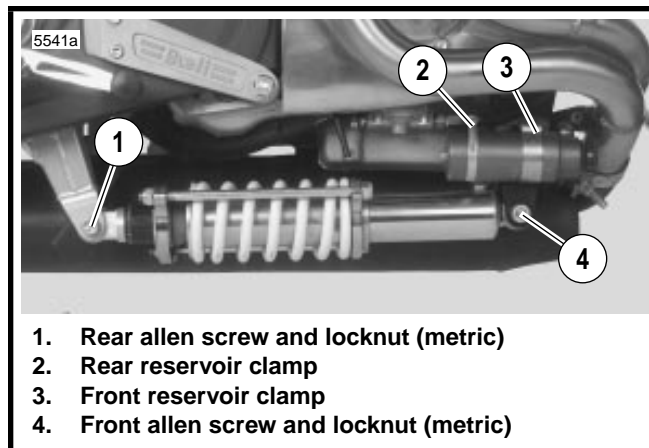

Figure 2-41. Rear Shock Mounting Hardware
See Figure 2-41. The rear suspension features a WP Suspension shock absorber. The shock adjusts for compression and rebound damping as well as spring preload.
4. See Figure 2-41. Use a flex socket and extension to remove allen screw on front reservoir clamp (3).
5. Remove allen screw and locknut (4) (metric) on front mounting point.
6. Remove allen screw and locknut (1) (metric) on rear mount while supporting shock absorber.
7. Loosen rear reservoir clamp (2).
1. See Figure 2-41. Loosely install reservoir clamps (2, 3).
2. With banjo bolt facing upward, place shock in mounts and loosely install front allen screw and locknut (4) (metric).
3. Loosely install rear allen screw and locknut (1) (metric). Tighten reservoir clamp hardware (2, 3).